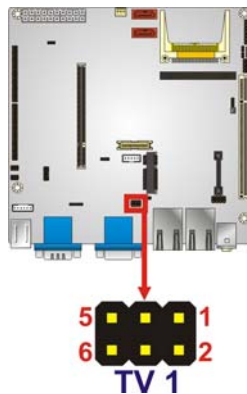

Figure 3-18: TV Connector Pinout Locations
- CN Location:** See **Figure 3-18**